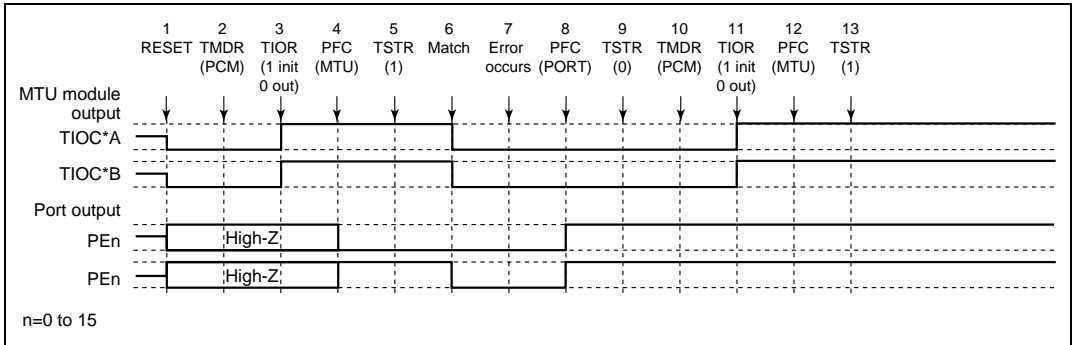

Figure 10.104 Error Occurrence in Phase Counting Mode, Recovery in Phase Counting Mode
(20) Operation when Error Occurs during Phase Counting Mode Operation, and Operation is Restarted in Phase Counting Mode: Figure 10.104 shows an explanatory diagram of the case where an error occurs in phase counting mode and operation is restarted in phase counting mode after re-setting.